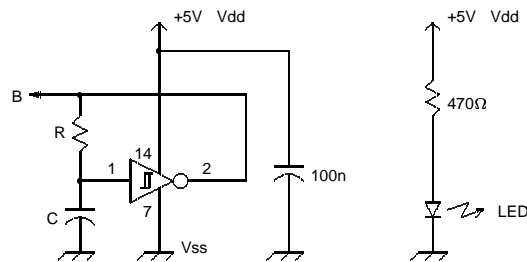

Figure 12: Adding an LED
1. Without removing the oscillator circuit, connect up the LED circuit as shown in figure 12.